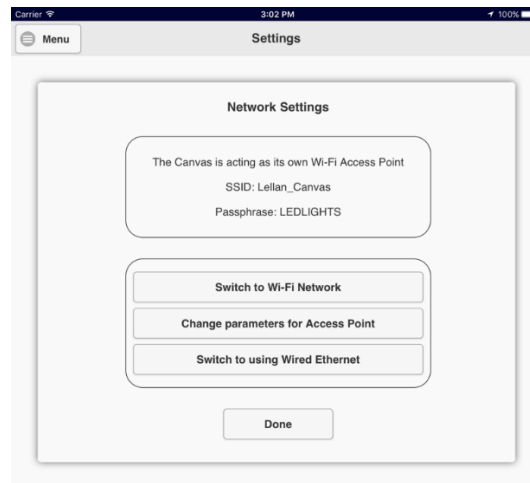

Figure 5-33: The Network Settings Page
3. The *Network Settings* Page will appear, showing the current network configuration as well as two or three choices for changing the network configuration (Figure 5-33).